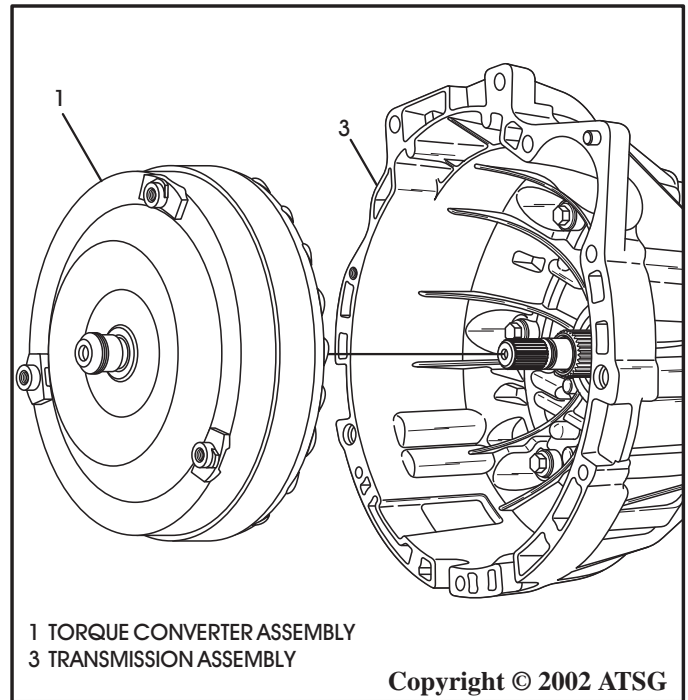

Figure 213
24. Install the torque converter carefully into the transmission, as shown in Figure 213. Ensure that it is fully seated and engaged with the oil pump gear.